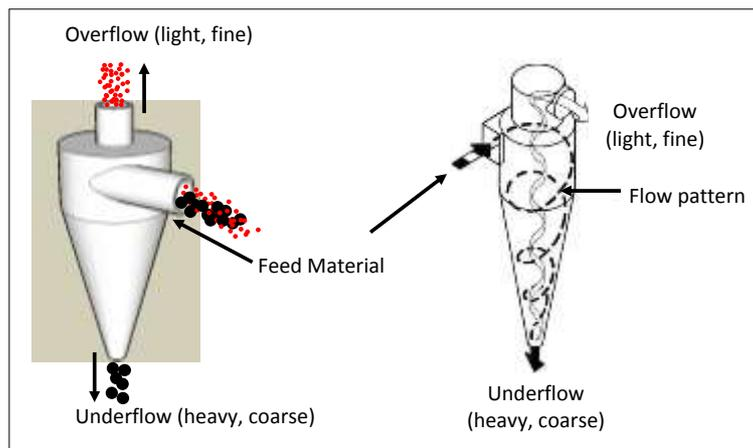

Figure 1.3: Cross-sectional view of the typical cyclone model (www.wikipedia.org).
are kept closer to the center (Figure 1.3). The vortex finder (Figure 1.2a) draws the fluid which comprises of the fine materials to the overflow stream (top) due to the viscous resistance of feed materials moving towards the zone of low pressure. Meanwhile, the coarser materials migrate towards the apex or spigot and constitute most of the splashing underflow stream (bottom) as shown in Figure 1.2b.
Participants are required to design, cost, build, test and present a working prototype of a hydrocyclone. It must produce the underflow and overflow streams as shown in Figure 1.3. This classifier must be able to treat a powdered mixture consisting of materials that vary in size, shape and density. Additional test material will be provided by the TUT competition officials to test the limits of the prototype. During the competition, the participants will be expected to describe the separation dynamics when the prototype is in operation and submit a technical report (refer to Section 4 for additional details).
- VERY IMPORTANT: The hydrocyclone particle classifier should be able to separate the feed material into underflow and overflow streams as illustrated in Figure 1.3.